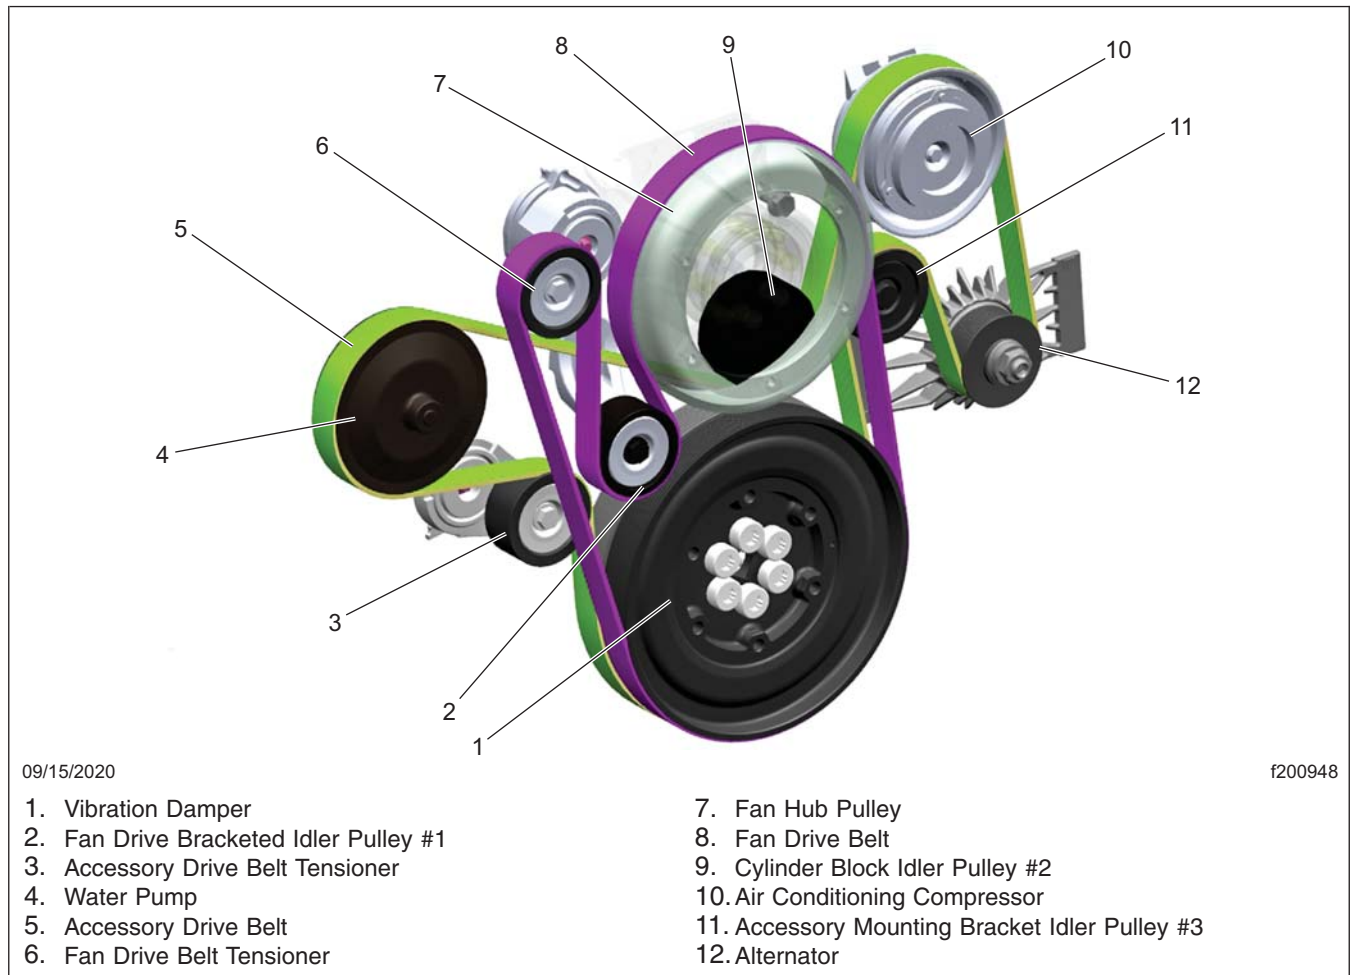

Fig. 2, Fan Drive Belt
- 6.1 Using the guide pulley mounting bolt on the fan drive belt tensioner (see Fig. 2, Ref 6), rotate the assembly counterclockwise and hold to relieve tension.
- 9.9 Torque the Fan Drive Bracketed Idler Pulley #1 (see **Fig. 2**, item #2) to 37 lbf-ft (50 N·m).
- 9.10 Torque the fan drive belt tensioner (see **Fig. 2**, item #6) mounting bolt to the cylinder block to 37 lbf-ft (50 N·m). Torque the mounting bolt to the cylinder block, and not the pulley mounting bolt.